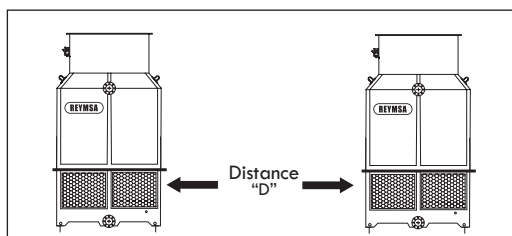

Figure A-1: Minimum recommended distance between towers
- Make sure that the area provides enough clearance for safe operation. Place towers far enough apart so that discharge air from one Tower is not drawn in by another. See Table A-1 and Figure A-1 for recommended clearances between towers.